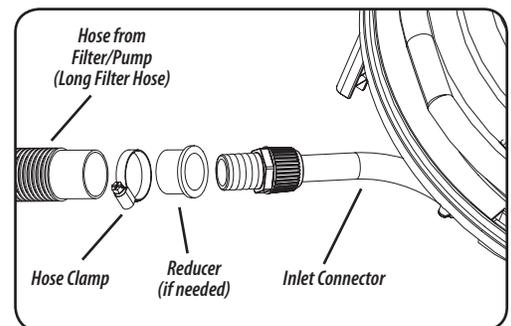

Figure 2
- e) Locate the inlet connector and the long filter hose. Attach the long filter hose between filter outlet (the port where the pool return hose was previously connected) and the inlet connector (located at corner of heater) using the included hose clamps (see figure 2).
NOTE: Depending on the size of your hose, the 1¼"-1½" reducer may need to be used. Insert the reducer inside of the long filter hose and attach using hose clamp. Apply a small amount of silicon based lubricant to the outside of the side connector to allow an easy fit (see figure 2).